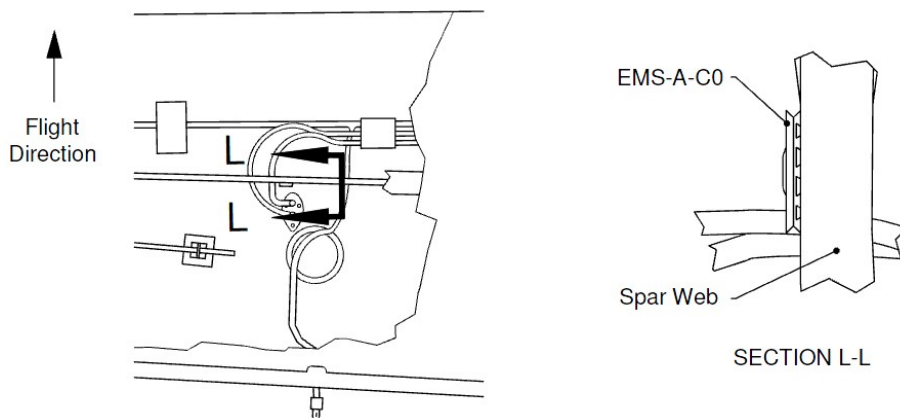

Figure 41: Bonding of Cable Tie Base to Wing Spar
- 13.1.13** Bond a Cable Tie Base (p/n: EMS-A-C0) to the Spar Web using DP410 adhesive, as shown in Section L-L of Figure 41. The location of the bond along the wing spar is approximate.